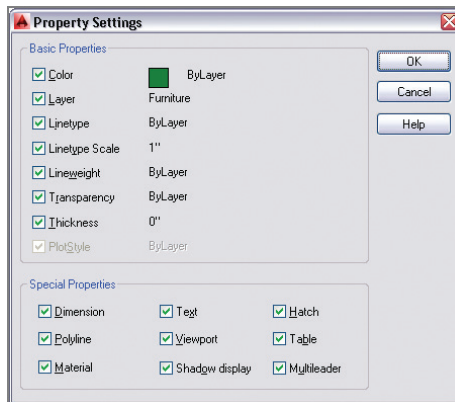

FIGURE 6.10 The Property Settings dialog box allows you to match much more than layers.
10. Type **S** (for Settings), and press Enter; the Property Settings dialog box appears. You can match many properties in addition to layers with this tool (see Figure 6.10). Click OK.